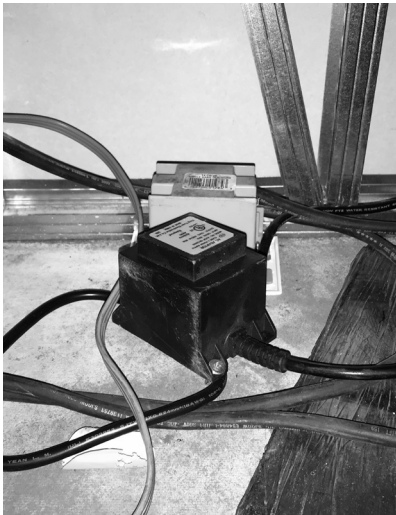

FIG. 1
- a. In a built-in application secure the transformer box near the GFCI 120V outlet in a dry location and away from the Power Burner firebox and excessive heat area. (Fig. 1)